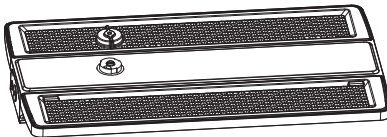

Figure 9
2. Rotate the existing Zhaga cover counterclockwise and remove it from the bottom of the fixture. (See Figure 9.)